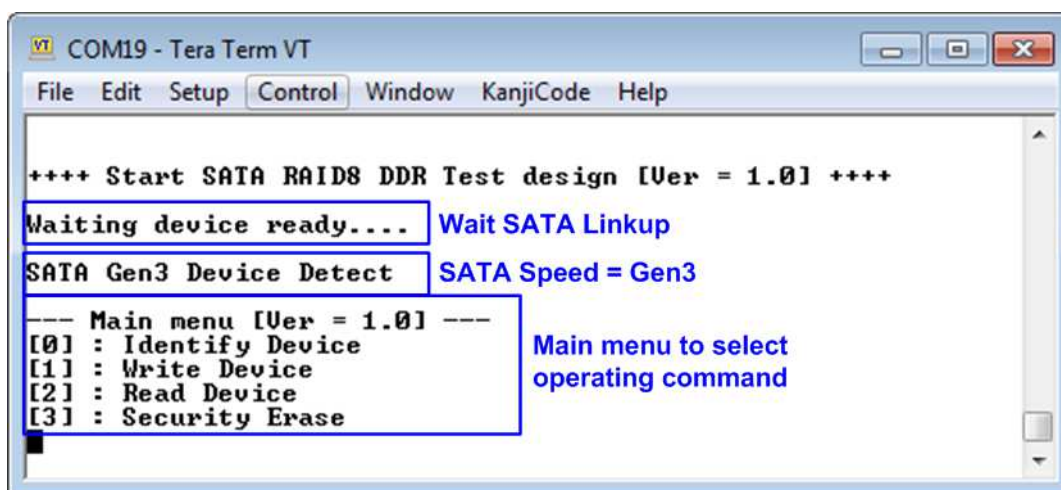

Figure 2-6 Main menu after programming configuration file and RAID0 initialization complete
10) After programming completely, LED[0] and LED[1] are ON during RAID0 initialization process. Then, LED[1] changes to OFF to show that RAID0 completes initialization process and system is ready to receive command from user. After that, main menu is displayed as shown in Figure 2-6.